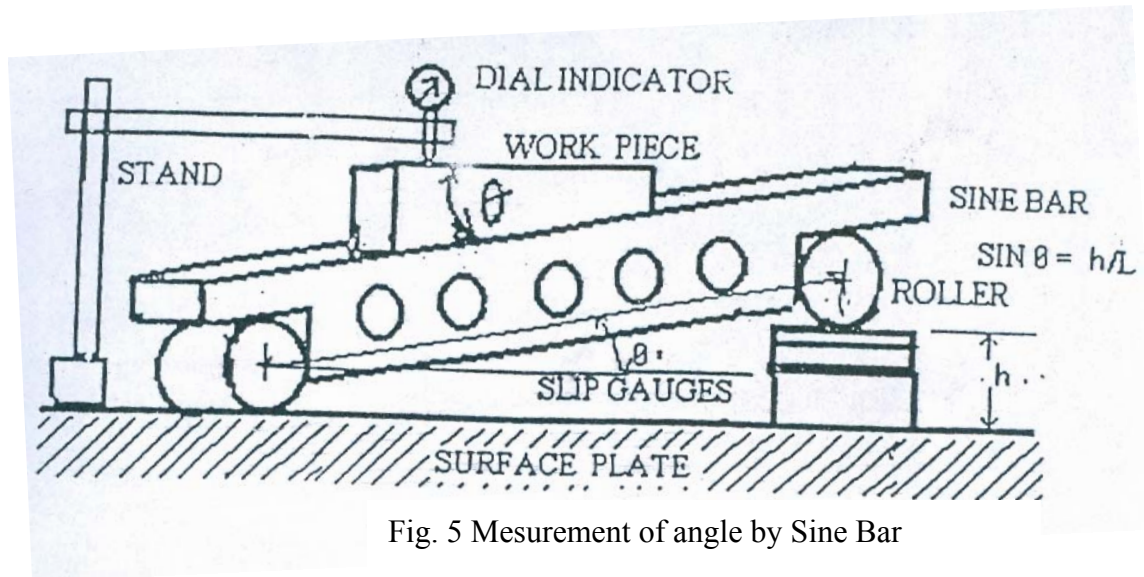

Fig. 5 Measurement of angle by Sine Bar
- Measurement of angle by Sine Bar (Ref: Fig.5)